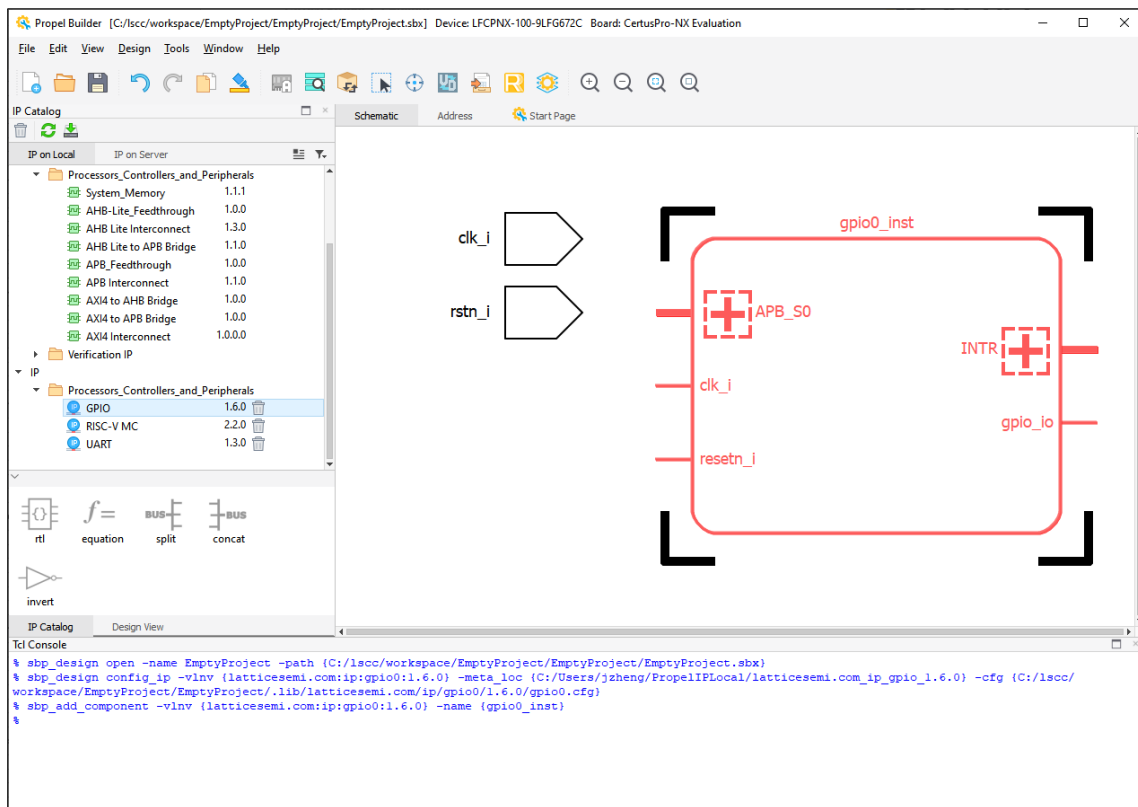

Figure 2.47. Propel Builder Schematic View Shows the Module Instance
9. Click **OK**. The schematic block for the module appears in the **Schematic** view (Figure 2.47).